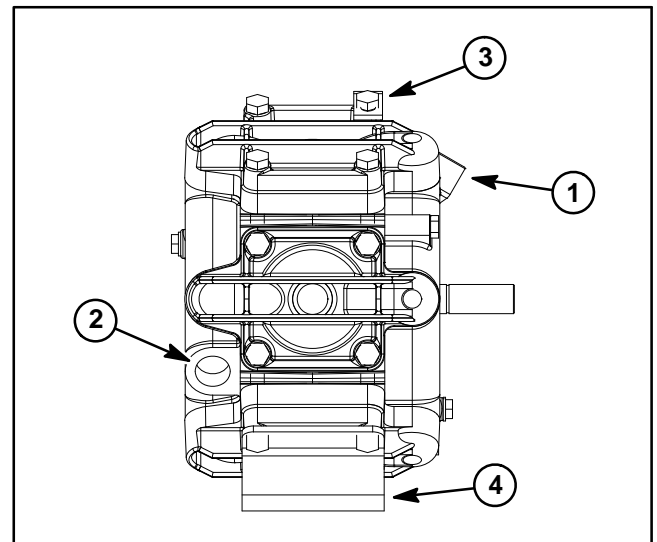

Figure 7
1. For assembly purposes, use marker to identify location of all connecting rods. Also, note orientation of pump housing and pump casting to ensure that pump inlet and outlet are properly positioned during assembly (Fig. 7).
2. Remove three (3) hex bolts (item 27) that secure pump casting halves together.
5. Remove crankshaft with metal spacers (item 21), bearings (item 22) and counterbalance halves (items 23 and 24) from pump casting.
6. Press ball bearings from crankshaft, pump housing and pump casting. If necessary, remove counterbalance halves (items 23 and 24) from crankshaft.
7. Remove seals (item 14) from pump castings.
- A. If counterbalance halves (items 23 and 24) were removed from crankshaft, install the counterbalance halves onto the crankshaft.
13. Position the pump housing (item 16) on a flat work surface with the seal end down.
14. Place metal spacer (item 21) and then crankshaft assembly into pump housing. Make sure that end of crankshaft with the grease fitting is inserted into the housing.
16. Place second metal spacer onto crankshaft and connecting rods and then install pump casting. Make sure that pump inlet and outlet ports are positioned as noted during disassembly (Fig. 7).
17. Secure pump castings with three (3) hex bolts. Torque bolts from **60 to 72 ft-lb (82 to 97 N-m)**. After assembly, check that pump crankshaft turns freely.